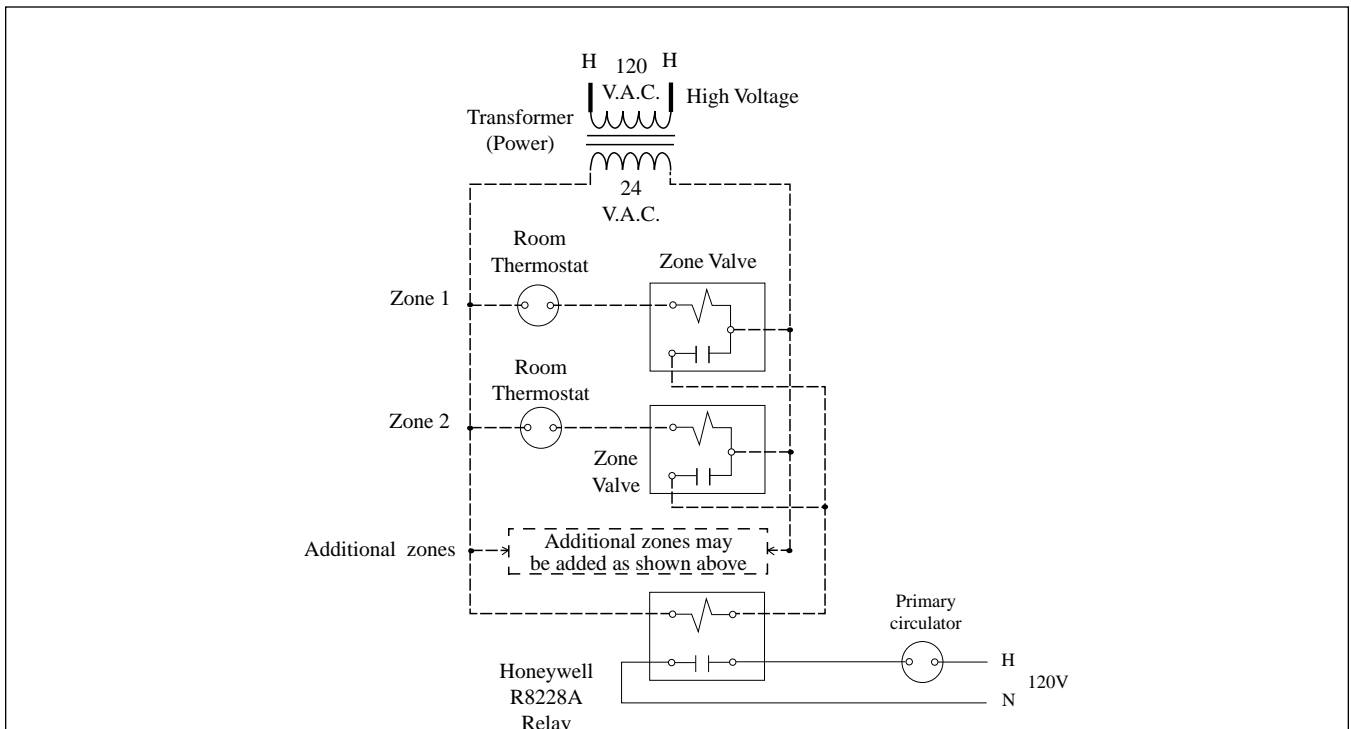

Fig. 17: Multiple zone field for space heating wiring using zone valves
- For field wiring using zone valves see Fig.: 17.